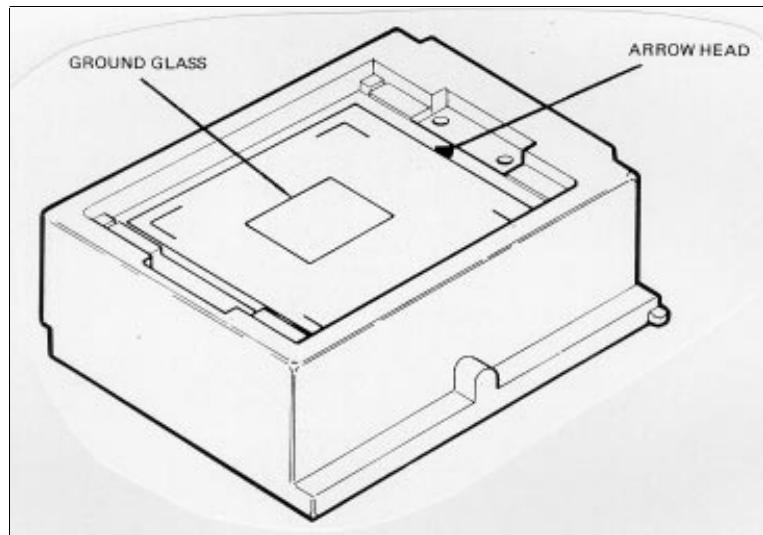

Figure 5-19. Replacement of Ground Glass
b. Orient the ground glass with the frosted side facing the camera lens. Note the alignment arrowhead on the glass (figure 5-19). This arrow must be pointing to the right, as shown in the illustration, when the glass is installed.